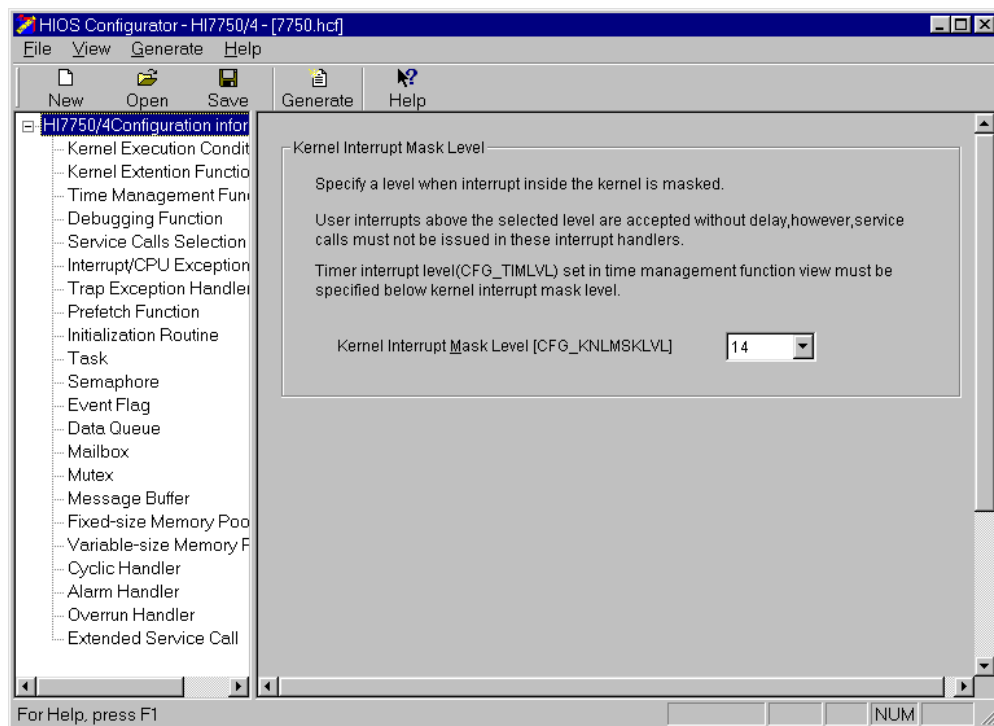

Figure 3.2 Configurator Startup Screen
Figure 3.2 shows the Configurator Startup screen.
Click kernel operational conditions in the HI7750/4 Configuration Information area on the Configuration Startup screen to view the screen in figure 3.2. In this screen, the mask level for a kernel interrupt can be set. Since the default value (14) is used for the mask level of a kernel interrupt in this guide, you do not need to change the interrupt level.